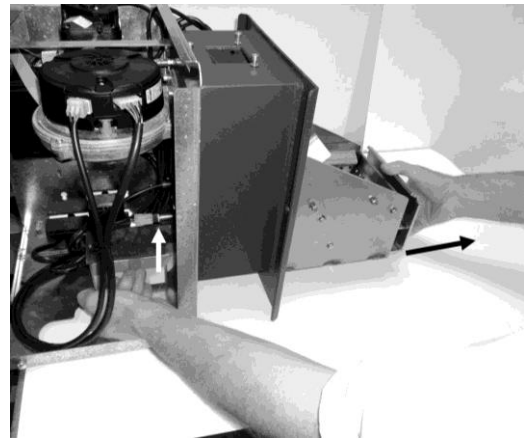

Fig 10.4
5. Open the brazier manually by pulling up on the red slider of the electromechanical motor and at the same time pulling on the end wall of the brazier as shown in fig 10.4 below. Remove any ash from within the brazier. Close the brazier manually by pulling up on the red slider of the electromechanical motor and at the same time pushing on the end wall of the brazier.